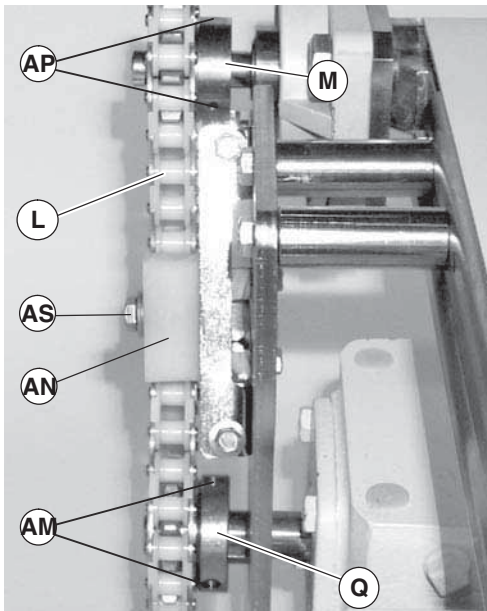
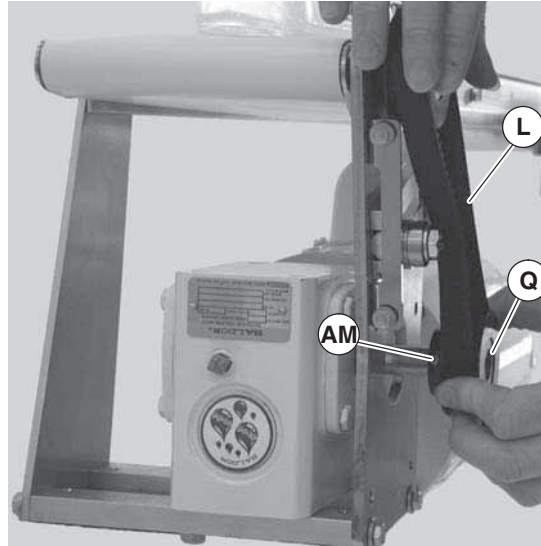

Figure 29
Figure 38
2. Loosen timing chain tensioner screw (Figure 29, item AS).
Make sure center of timing chain (Figure 29, item L) aligns with center of chain tensioner (AN). If necessary, loosen two set screws (AM) to move drive sprocket (Q) in or out. Tighten set screws. Also, if necessary, loosen two set screws (AP) to move driven sprocket (M) in or out. Tighten set screws.
7. Slide chain tensioner (AN) to take up chain slack. Tighten chain tensioner screw (Figure 29, item AS) to 92 in-lb (10.4 Nm).
- b. Slide chain tensioner (AN) to take up chain slack. Tighten chain tensioner screw (Figure 29, item AS) to 92 in-lb (10.4 Nm).
For a timing chain, it may be necessary to remove driven sprocket (Figure 29, item M) by loosening two set screws (AP) to remove drive sprocket (Figure 38, item AM).
3. Loosen two drive pulley or sprocket set screws (Figure 38, item AM). Remove drive pulley or sprocket (Q) and timing belt (L).